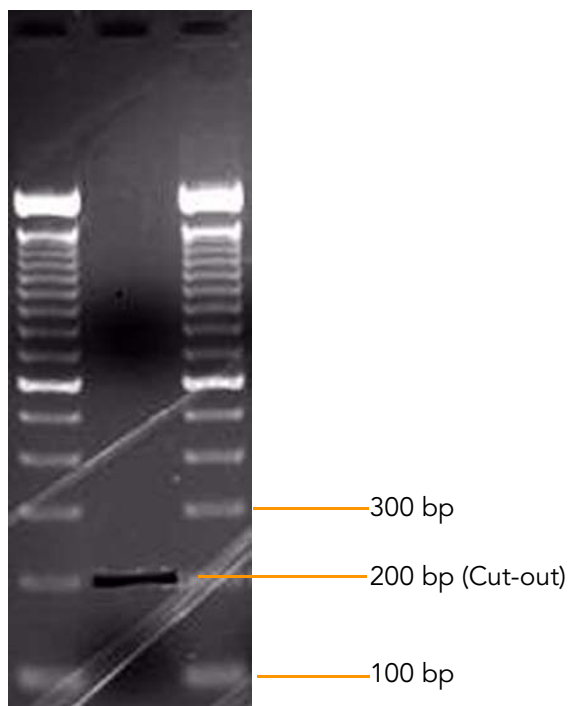

Figure 1 2% Agarose Gel
4. Excise a region of gel with a clean gel excision tip and remove the gel slice by centrifuging it into a microcentrifuge tube. The gel slice should contain the material in the 200 bp (\pm 25 bp) range. See Figure 1.